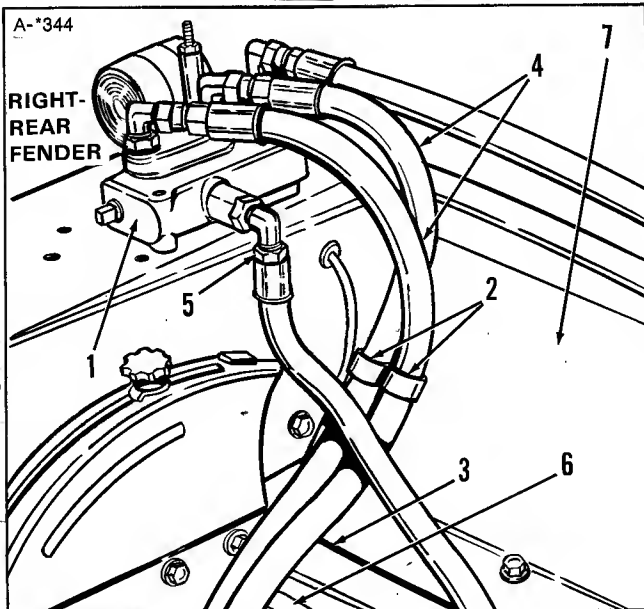
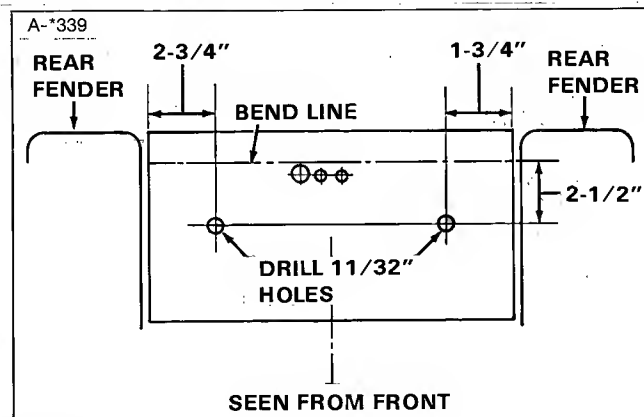

Figure 1.
Figure 2.
2. Two holes must be drilled in plate (7, figure 1) located behind tractor seat in order to install hose clamps. (The right-hand clamps are item 2 in figure 1.) Refer to figure 2 to mark and drill holes.
3. Two holes must be drilled in the right-hand rear fender to install the valve (1, figure 1). First, remove the fender brace. Cut out the supplied template (on last page of these instructions). Align template with creases on fender and mark two spots. Drill two 17/64 inch holes.
6. Install valve to fender (figure 1) with hardware shown in figure 7 but do not install cover at this time. Re-install fender brace.